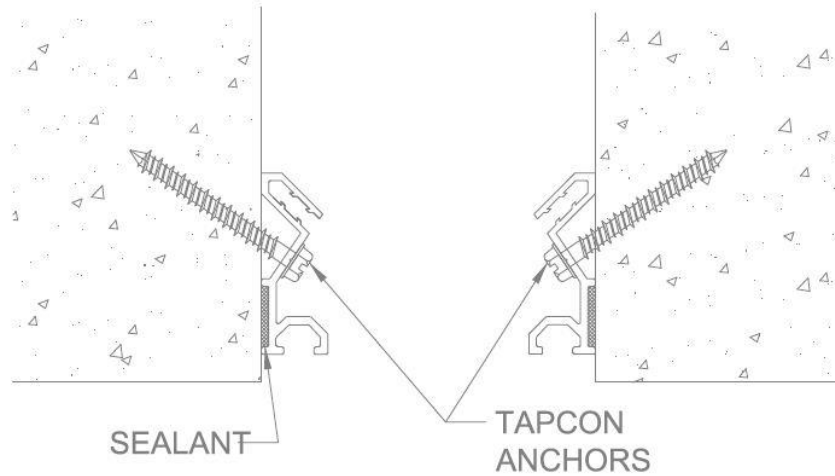

FIGURE 2
2. Apply a bead of sealant (by others) into the channel in the extrusion as shown. Attach the aluminum extrusions to the concrete wall using $\text{Ø}3/16$ " Tapcon anchors. For other substrates, use appropriate fasteners and methods. Extrusions should be flush to substrate to ensure a weathertight seal. **See Figure 2.**